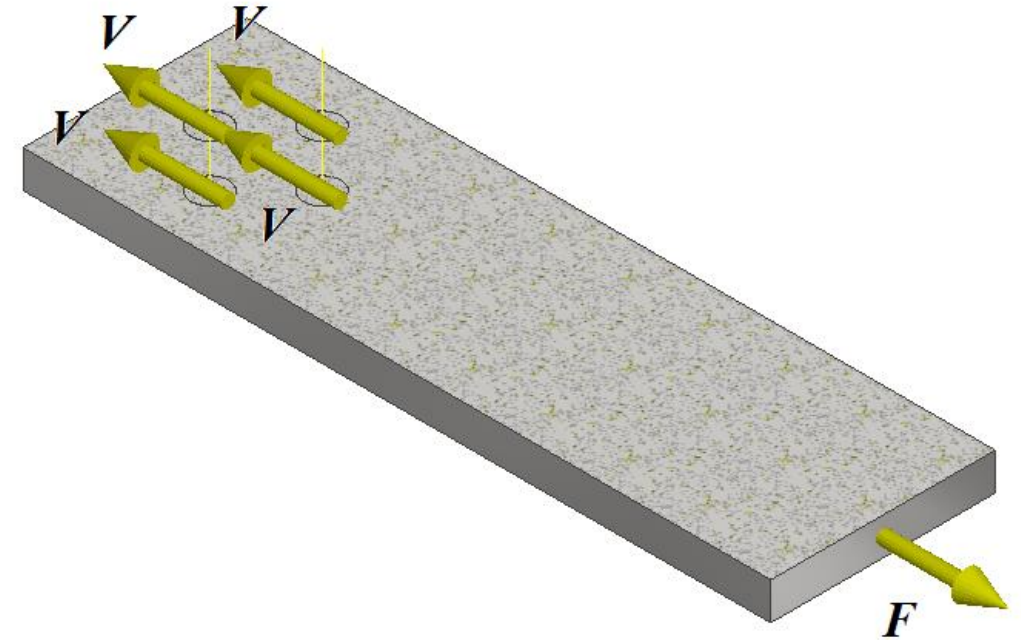

Fig. 2 – FBD for determining shear forces
2. Construct a free-body diagram (FBD) to determine **shear forces  $V$**  in rivets (**Fig. 2**).